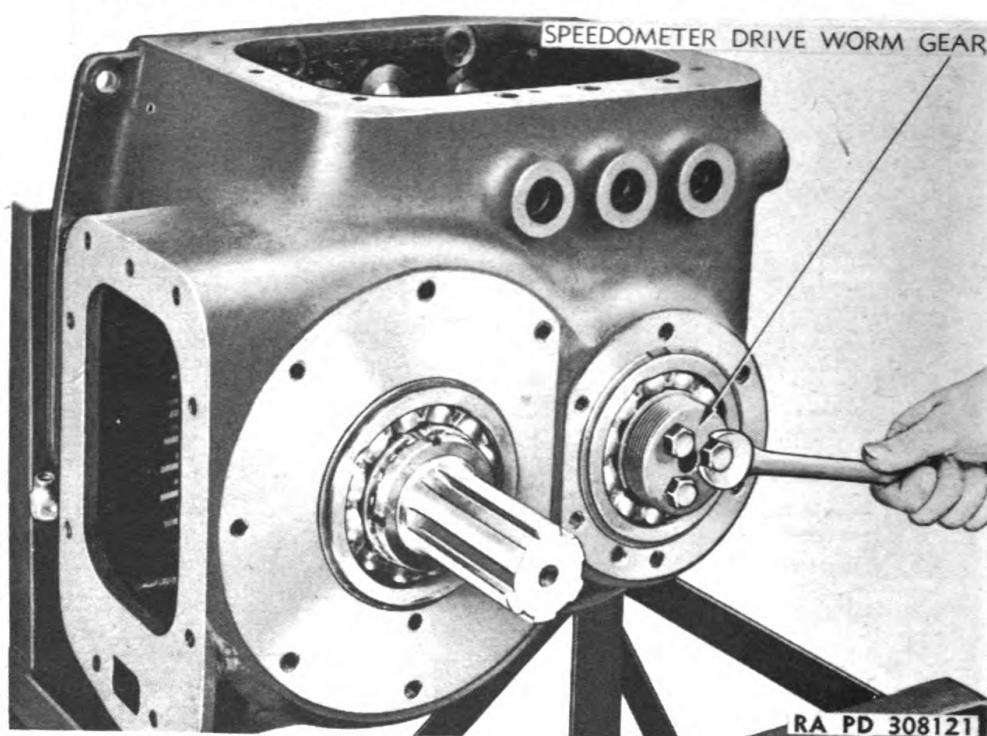
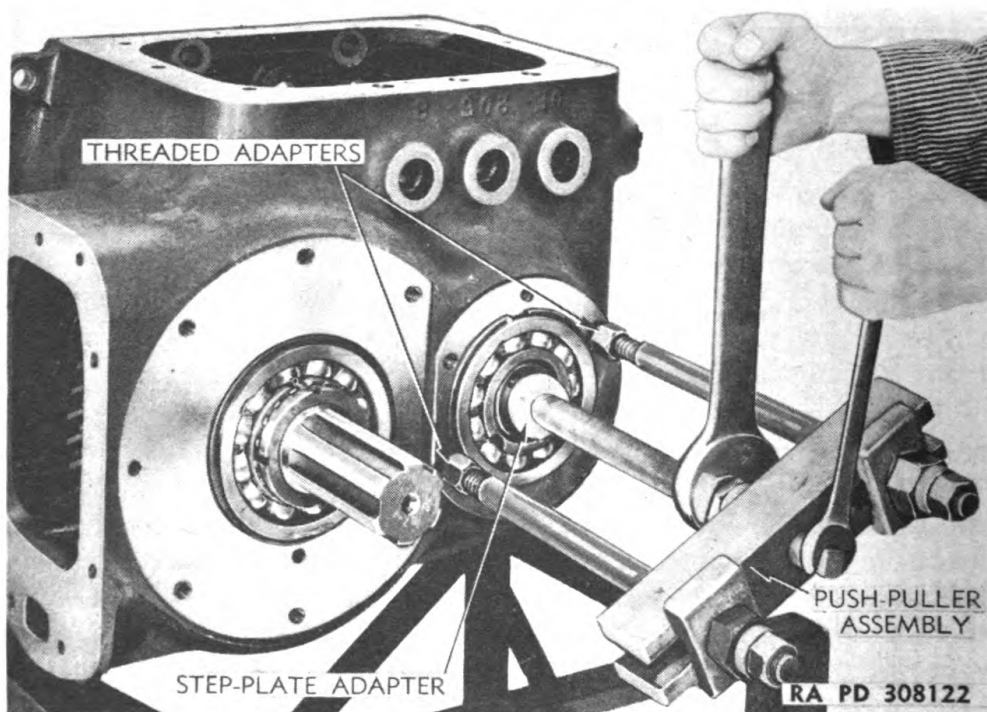

Figure 21 – Removing Speedometer Drive Worm Gear
Figure 22 – Pressing Pinion Shaft Out of Housing, Using Puller (41-P-2905-60)
b. **Remove Bevel Pinion Shaft and Gears.** Cut lock wire and remove the three cap screws from speedometer drive worm gear (fig. 21). Slip gear from end of shaft. Using puller (41-P-2905-60) mounted as shown in figure 22, press on bevel pinion shaft until it has been moved approximately three-fourths inch. Reach inside case and slide high range gear against rear of case. Slide splined washer toward high range gear. This will free a split lock ring so it can be removed from shaft (fig. 23). Push bevel pinion shaft nearly out of rear bearing hole in case. Slide range shifter gear into mesh with high range gear, then slide both against rear of case. Install the special remover and replacer (41-R-2378-59) under snap ring